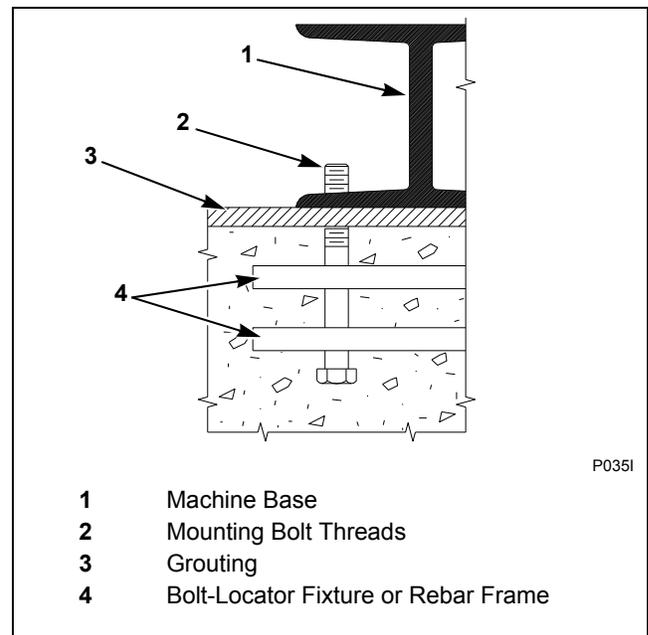

Figure 13
**NOTE: For 80 and 125 pound models, a bolt-locator fixture or rebar frame is available as an option. This is designed to be embedded in concrete. Refer to *Figure 13*.**